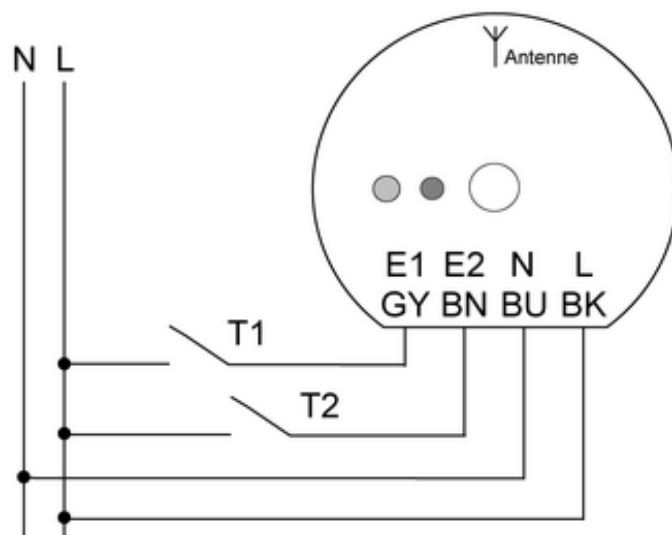
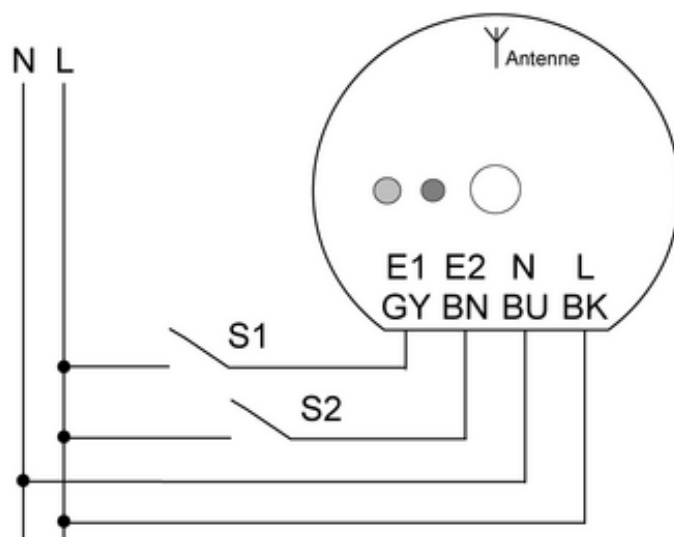
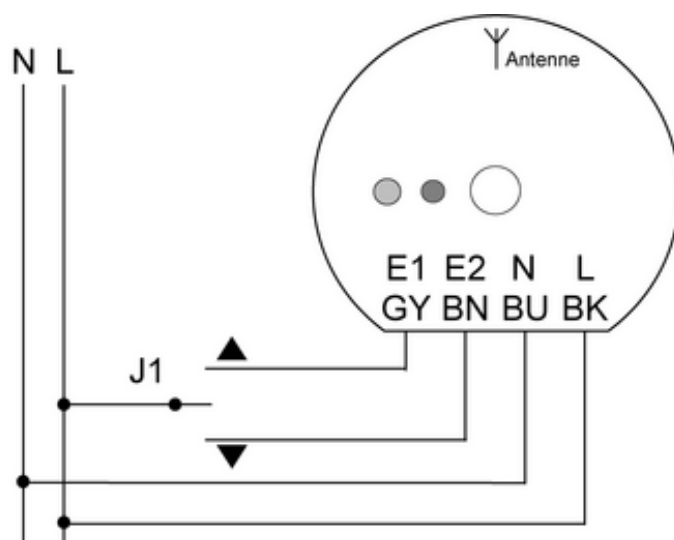
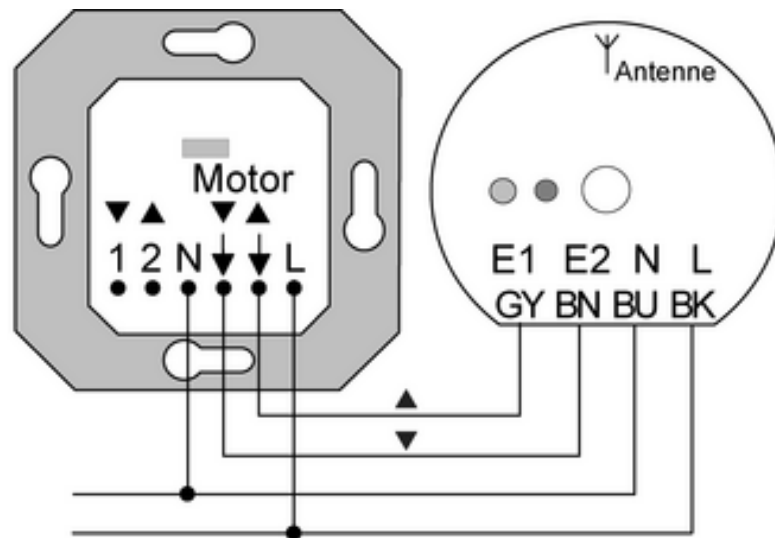

Figure 4: Push-button connection diagram, operating modes A, B, C
Figure 5: Switch connection diagram, operating mode B
Figure 6: Blind switch connection diagram, operating mode D
Figure 7: Blind control connection diagram, operating mode D
- Press connected push-button (Figure 4) briefly or for a longer time.
This operating mode makes it possible to control a blind actuator via a blind switch (Figure 6) or blind control (Figure 7).
- Connect radio transmitter according to connection diagram (Figure 4), (Figure 5), (Figure 6) or (Figure 7). The connecting cables should be assigned as follows: